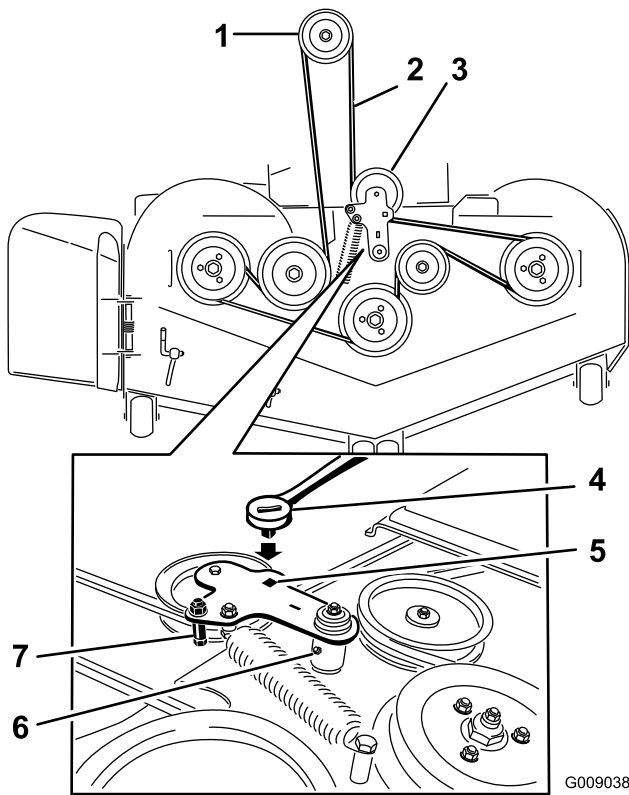

Figure 100
- Lift the floor pan and insert a ratchet into the square hole in the deck idler (Figure 100).
- Rotate the deck idler clockwise and remove the mower belt (Figure 100).